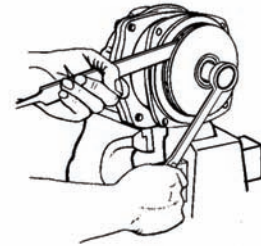

Figure 11
2. To remove the Impeller Nut, clamp the Flange in a vise and insert a large screwdriver or file (at least 10" long) into the Impeller Vanes to prevent the Impeller from turning when loosening the Impeller Nut. Use a socket wrench (3/4" for Series 9000C or 5/8" for Series 9200C and 9400C) to remove the Impeller Nut by turning it counterclockwise (See Figure 11). *[Use 7/8" deep socket wrench to remove plastic seal nut, then 9/16" deep socket to remove metal jam nut, rubber gasket and washer.]*